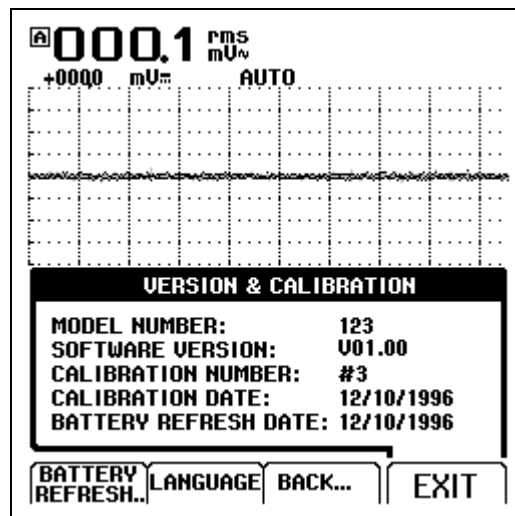

Figure 5-1. Version & Calibration Screen
2. Press  to show the VERSION&CALIBRATION screen (see Figure 5.1).